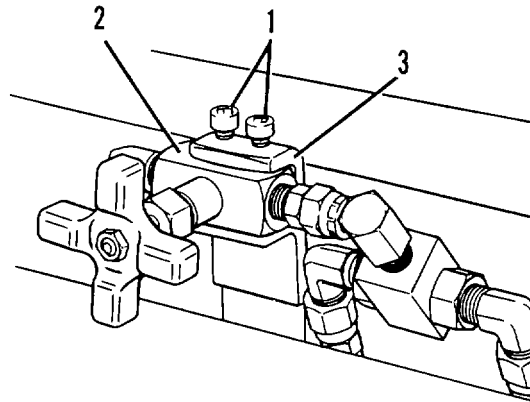

Figure 4-39.2. Bypass Valve.
- (i) Position bypass valve (2, Figure 4-39.2) in bracket (3) and tighten two socket head capscrews (1).